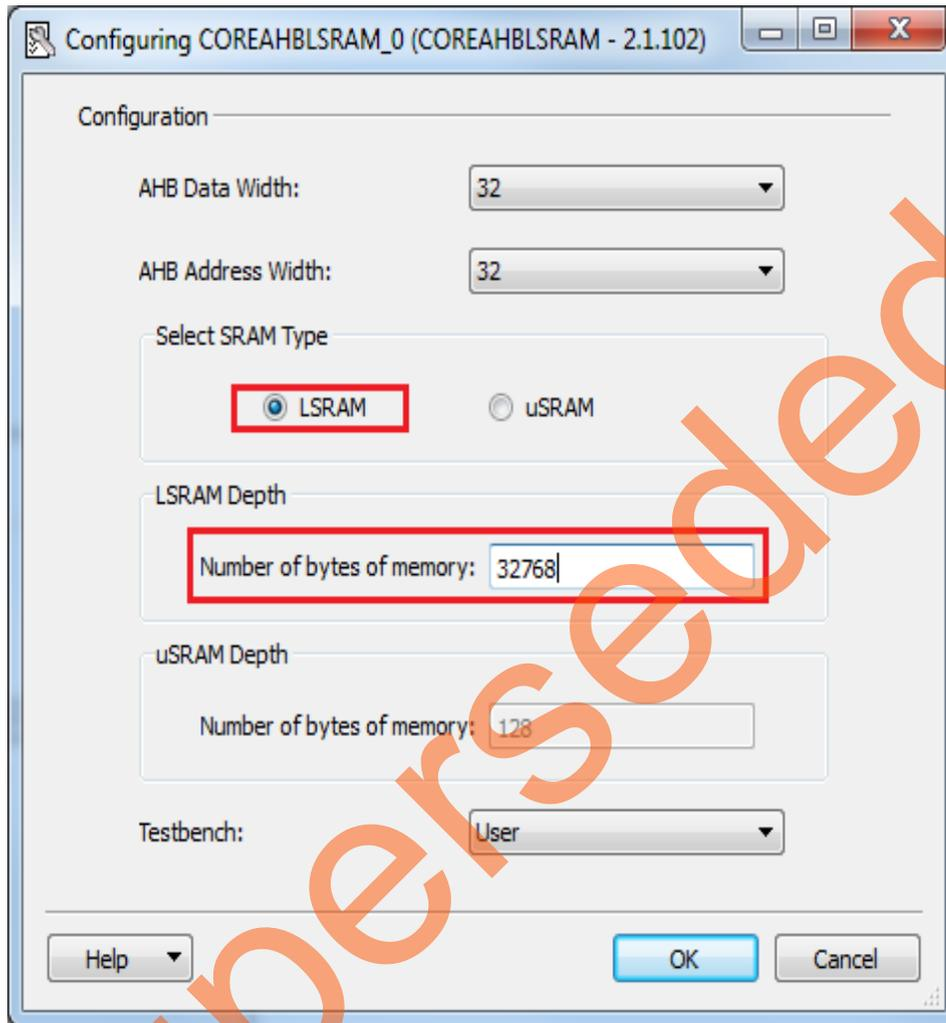

Figure 25 • Configuring COREAHBLSRAM_0
3. Double-click COREAHBLSRAM_0 to configure it. Figure 25 shows **Configuring COREAHBLSRAM_0** window.